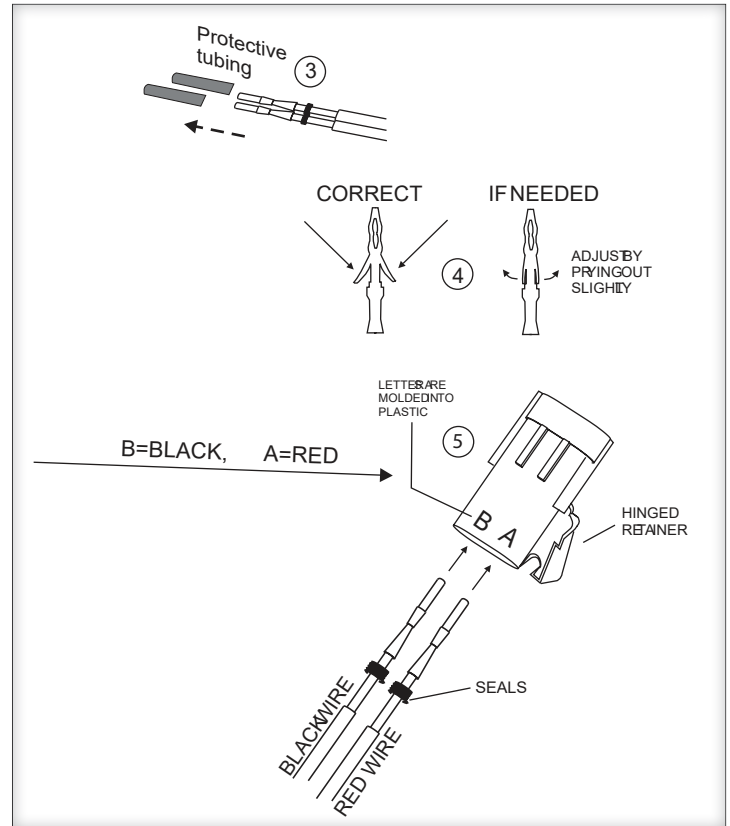

Figure 16-2
6. Flip open end connector's jinged retainer, insert pins as shown. [Figure 16-2]